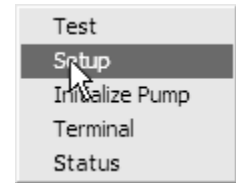

Figure 5: Select "Setup"
2. On main menu, choose Utility > Setup, as in **Figure 5**.